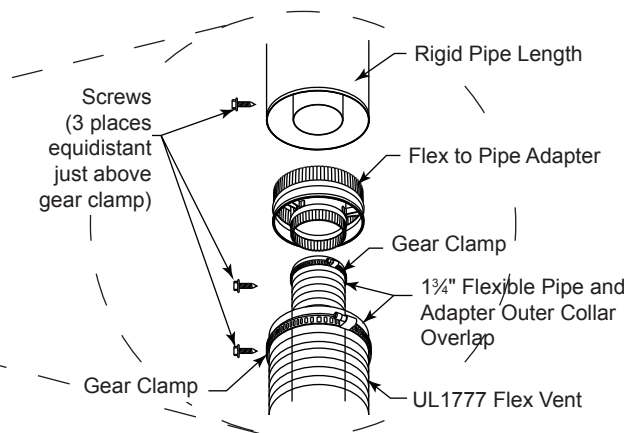

Figure 33 - Typical Pipe Connection
2. Review *Figure 33* and corresponding instructions for proper overlap, clamp and screw placement.